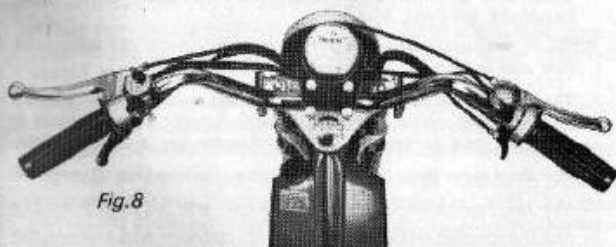

Fig. 8
**HANDLEBAR ADJUSTMENT (Fig. 8)**